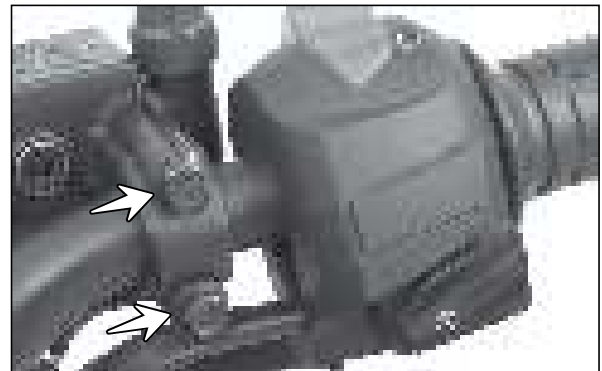

Fig. 6.38
- Take out the master cylinder by unscrewing the mounting bolts (2 Nos.) of holder master cylinder. (Fig. 6.38)